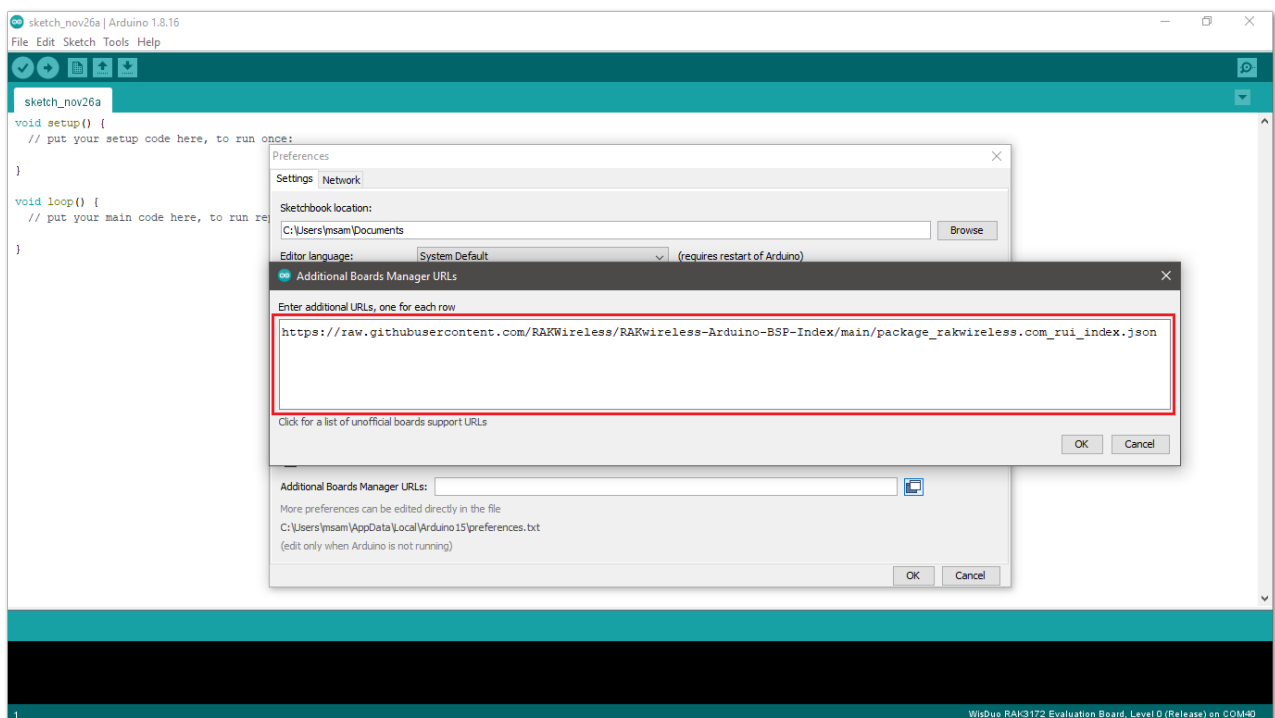

Figure 6: Add additional board manager URLs
- Copy the URL `https://raw.githubusercontent.com/RAKWireless/RAKwireless-Arduino-BSP-Index/main/package_rakwireless.com_rui_index.json` and paste it on the field, as shown in **Figure 6**. If there are other URLs already there, just add them on the next line. After adding the URL, click **OK**.